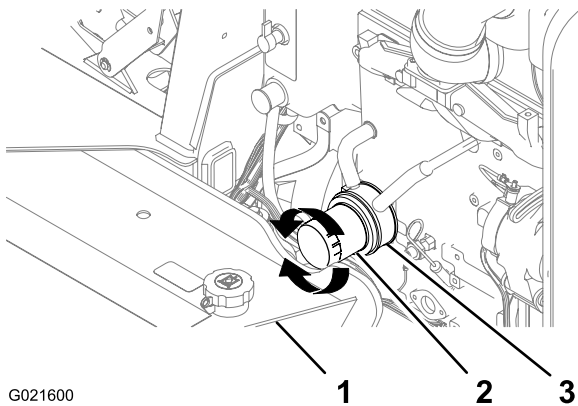

Figure 46
- Place a small drain pan under the oil filter and the oil-filter adapter (Figure 46).
- Rotate the oil filter counterclockwise and remove the oil filter (Figure 46).
- Align the new oil filter to the oil-filter adapter and rotate the filter clockwise until the seal of the oil filter contacts the oil-filter adapter (Figure 46).
- Hand tighten the oil filter an additional 1/2 turn (Figure 46).